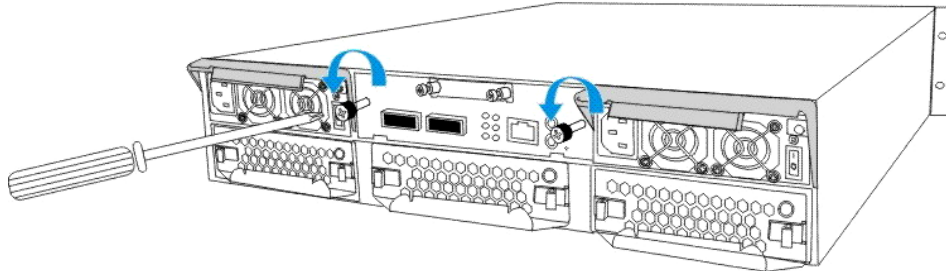

Figure 5-1: Loosening the Controller Captive Screws
Step 3. Loosen the captive screws that secure the controller to the chassis. (See *Figure 5-1*)